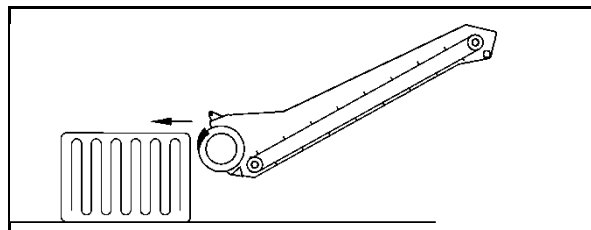

Fig. 160
7. **Pick up cuboid bales:** Lower the cutter arm according to Fig. 160 and drive slowly forward to pick up the fodder. Observe the information in the chapter "Lift / Lower cutter arm", page 127.